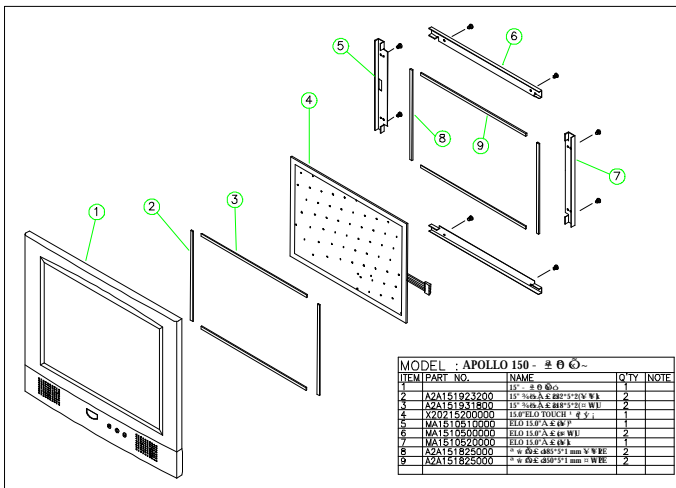
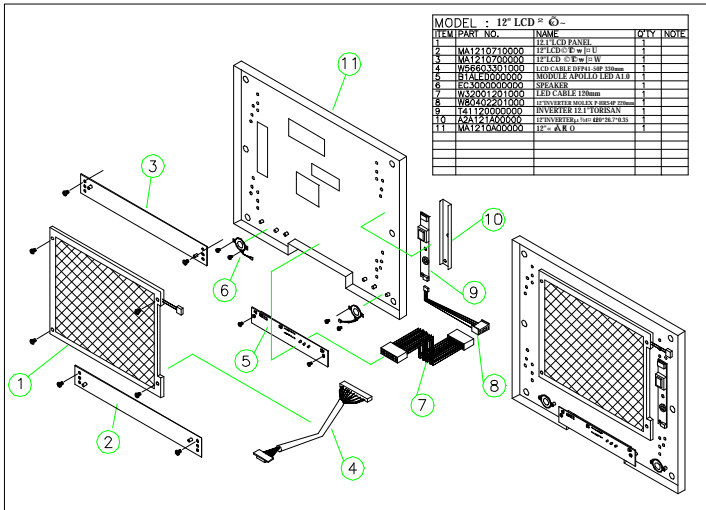
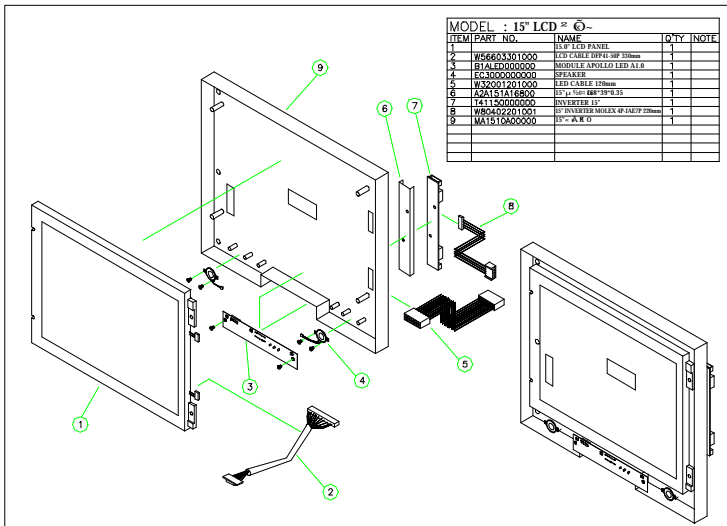

FIGURE 5-7: APOLLO 120 FRONT BEZEL ASSEMBLY
FIGURE 5-8: APOLLO 120 LCD MODULE ASSEMBLY
FIGURE 5-9: APOLLO 150 LCD MODULE ASSEMBLY
4. Fix the motherboard (6) to the chassis with 7 PMS anti-fallen 3\*6 screws.
5. The IR/LED 2\*13-pin cable (Fig. 5-7 (7) & Fig. 5-8 (5)) has to go through the rectangle opening located at the bottom side of the chassis, then connected to motherboard's J9, the HDD LED & ACPI LED & SMI connector.
Figure 5-8 and 5-9 illustrate the way to assemble the APOLLO's LCD module.
1. Refer to Figure 5-8. There are two LCD brackets (2) & (3) used to fix to the LCD panel (1) to the LCD holder (11) from the up & down sides.
3. The standard LCD used in APOLLO 120 is SANYO MXS121022010 or its equivalent. It is a TTL interface LCD. The LCD cable (4) is a DF9-41S to 2\*25-pin cable with around 35 cm in its length. Insert the 41-pin end into the opening at the rear side of the LCD holder and have it firmly plugged to the 41-pin connector at the rear side of the LCD panel.
4. Attach the insulator (10) to the inverter (9).
5. The inverter cable (8) is a 4-pin to 4-pin cable with wafer connectors at both sides. Connect the one end to inverter first. The other end is for later connection to the **INV1** on the motherboard.
8. For APOLLO 120, the IR/LED board (2) is to be fixed to the lower side of the LCD holder.
1. Refer to Figure 5-9. The standard LCD used in APOLLO 150 is either 15.1" TTL LG 151X2 or 15" LVDS Chi Mei M150X3-L01 or their equivalent. The assembly of TTL LCD differs from that of the LVDS LCD.
2. Fix the LCD panel (1) to the LCD holder (9) with four PMS 3\*8 screws.
3. For the TTL LCD, LM151X2 or its equivalent, the LCD cable (2) is a DF9-41S to 2\*25-pin cable with around 35 cm in its length. Insert the 41-pin end into the opening at the rear side of the LCD holder and have it firmly plugged to the 41-pin connector at the rear side of the LCD panel. The other end is for later connection to the LCD1 on the motherboard.
8. Attach the insulator (6) to the inverter (7).
9. The inverter cable (8) for APOLLO 150 is a 7-pin to 4-pin cable with wafer connectors at both sides. Connect the 7-pin end to the inverter first. The other end is for later connection to the **INV1** on the motherboard.
13. The two speakers (Fig. 5-8 (6)) are to be fixed to the right and left sides of the IR/LED board. The speaker wires are to be connected to the 2-pin header on the IR/LED board.